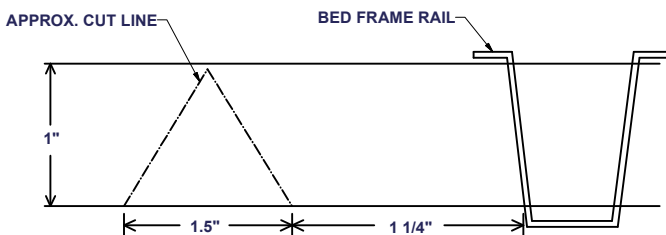
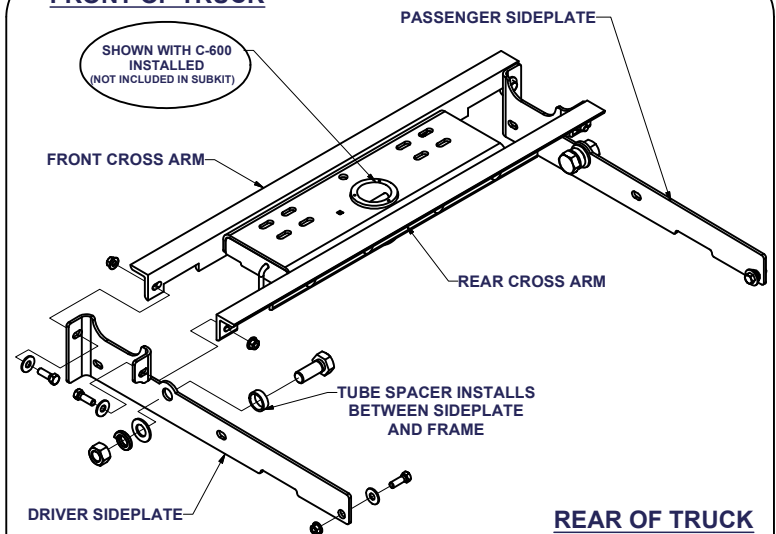

FIGURE 1
FIGURE 2
- 2) Using a 1/2" drill bit, drill the center of each slotted hole in the gooseneck. (**Note: Be sure the holes are drilled in the lower rib section of the truck bed as shown in FIGURE 1**).
- 4) Install the rear cross arm(**has the deepest notches at the ends**) by sliding it between the bed and the frame on the passenger side in an inverted V position. In order to do this, the bed floor flange must be cut about 2" to the rear of the front most bed frame rail (As shown in **Figure 1**) (**NOTE: the notches must face the front of the truck**) After it rests on the frames, slide it towards the back of the truck. Rotate the arm so the notches are perpendicular to the truck bed. This process is made easier by loosening the bed bolts in the frame rails behind the axle and using a crescent wrench or channels locks on the slotted side of the cross arm to rotate it down on its long axis, placing the side without slots flush against the truck bed floor and the cut-outs span the truck frame.
- 6) Before raising the center section in position between the cross arms **with the ball cylinder towards the back of truck.** drop the back exhaust hanger. The round hitch receiver that protrudes from the top of the center section must fit through the hole in the truck bed. Using (8) 1/2" carriage bolts, attach the center section to the holes in both cross arms. **Finger tight only** with (8) 1/2" flange nuts. When re-attaching exhaust hanger, bend upward to adjust if tailpipes touch the center section.
- 7) Square the center section and cross arms across the frame. Place a 1 1/2" bolt with a washer through the back flange of the sideplate into the rear cross arm and **Finger tight only** with a 1/2" flange nut. (As shown in **Figure 2**) Place a 1 1/2" bolt with a flat washer through the front flange of the sideplate into the front cross arm. (As shown in **Figure 2**) **Finger tight only** with a 1/2" flange nut. (**REPEAT FOR OTHER SIDE**) (**NOTE: locate and release the brake line and fuel line retaining clip from the frame rail on the driver side before attaching driver sideplate.**) If bed bolts were loosened in step 4, re-tighten them now.
- 8) **Trucks without overload springs:** Align the large 1" hole and the rear hole on each sideplate to the existing holes in the truck frame. Place a 1" bolt with a 1" washer through the inside of the frame. Place the tube spacer between the frame and sideplate and attach a 1" washer, 1" lock washer, and 1" nut on the outside of the sideplates and **Finger tight only**. (As shown in **Figure 2**) On the rear of the sideplate, place a 1/2" x 1 1/2" bolt through the inside of the truck frame through the sideplate and attach with a 1/2" flange nut. (As shown in **Figure 2**) **Finger tight only**.